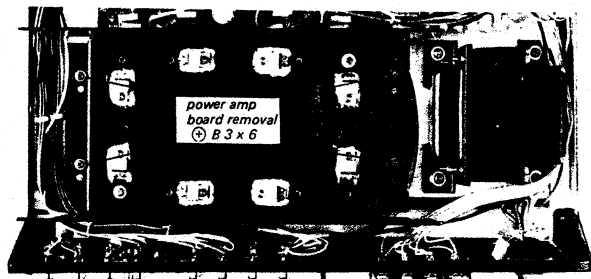

Fig. 2-7. Power amplifier board removal
2. Remove the four screws (⊕ B 3 x 6) securing the power amplifier board to its mounting bracket as shown in Fig. 2-7.